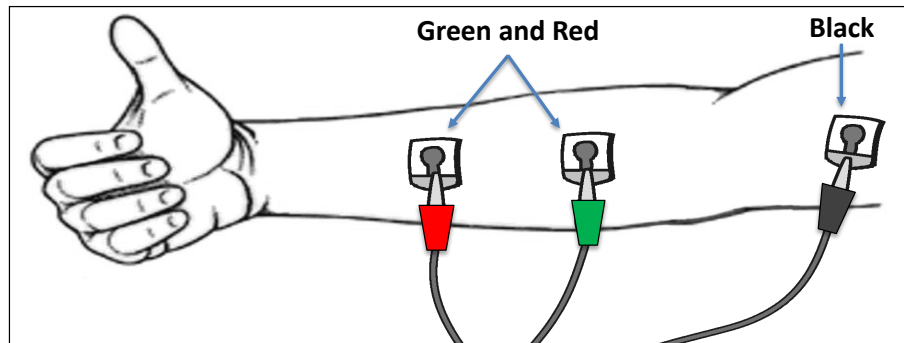

Figure 11. Attach electrode tabs at indicated areas to measure electromyography (EMG).
- a. Remove adhesive backing from three electrode tabs and adhere to the skin of the forearm of the dominant hand, as shown in Figure 11.